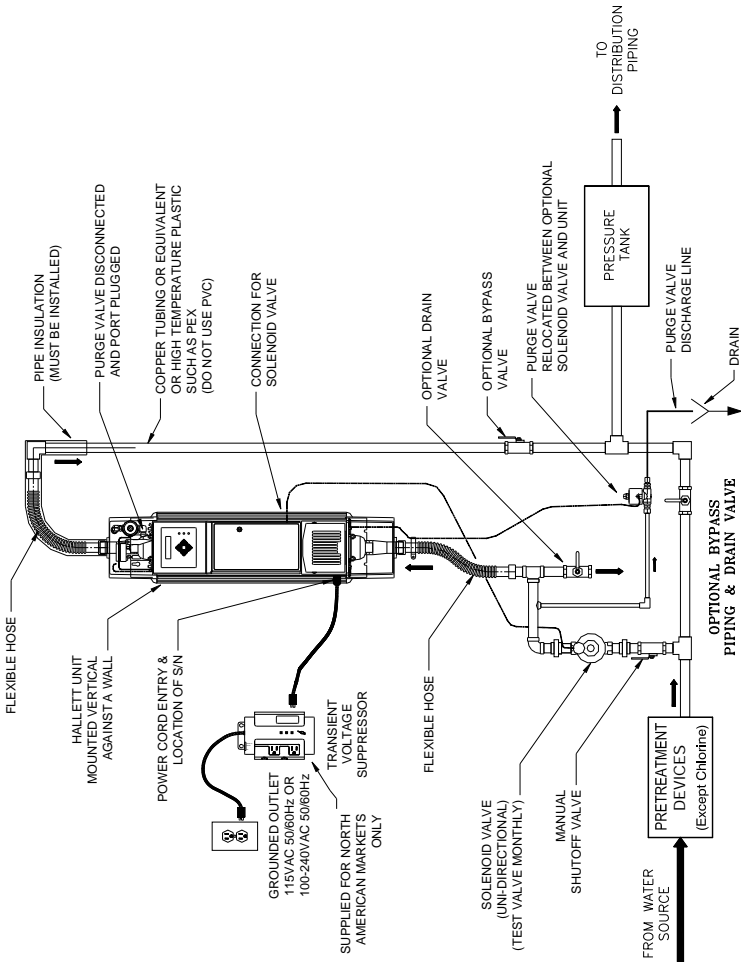

Figure 1C
Step 6: Connect the purge valve to a drain using the tubing provided. The tubing can be run down the right hand side of the unit within the recess provided – the plastic cover may be removed to insert tube. The tubing should be secured to the wall or floor to prevent it from moving during purging cycle. If the pressure tank (water reservoir) is located downstream of the unit, the purge valve must be relocated. A Purge Valve Relocation Kit H500001 is required (sold separately). See Figure 1C